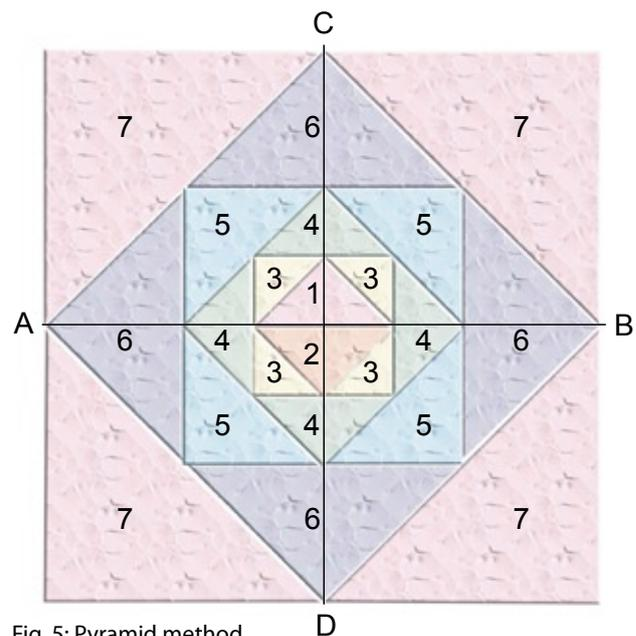
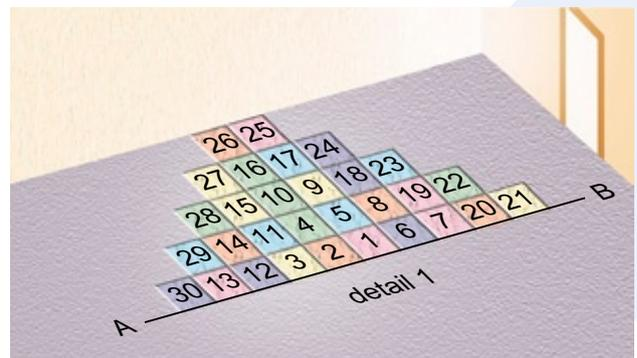

Fig. 5: Pyramid method
Fig. 6: Pyramid method – detail
- Lay the first pyramid from the central line as indicated in Fig. 5 and Fig. 6.